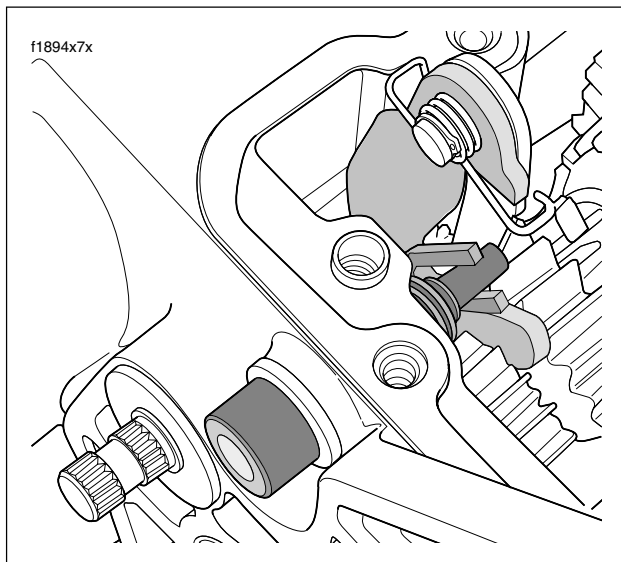

Figure 7-45. Shifter Pawl Assembly
6. Slide splined end of shifter shaft through sleeved bore until it protrudes from left side of case. Install flat washer and retaining ring on splined end of shaft. Hold the shifter pawl assembly inside the transmission case so that the centering spring slot is aligned with the centering screw. Using a T50 TORX drive head, tighten centering screw until snug. See Figure 7-45.